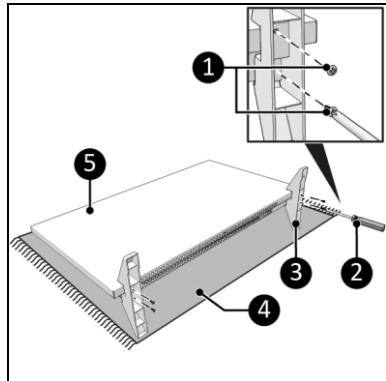

Figure 7
1. Lay the device down on a soft, steady surface (Figure 7, pos. 4).
2. Place the pedestals (Figure 7, pos. 3) on both sides of the main body (Figure 7, pos. 5).
3. Screw and tighten each pedestal with two small screws (Figure 7, pos. 1) using a Phillips screwdriver (Figure 7, pos. 2).